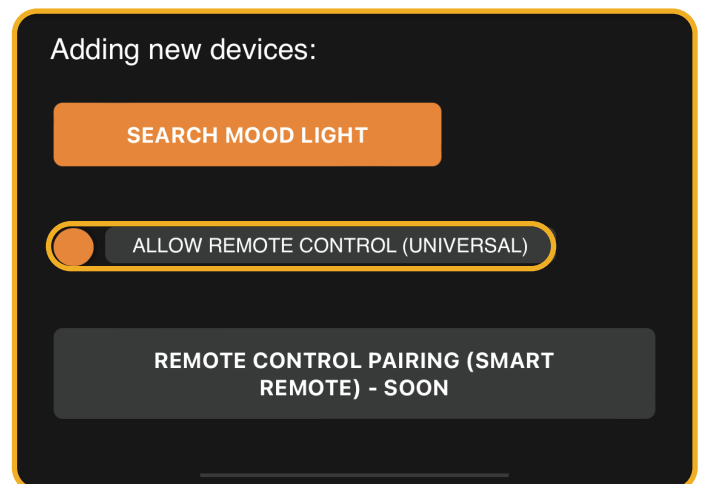

Figure 12.4 | Select 'Allow Remote control'
- Scroll down to 'allow remote control (universeel)' and make sure it is selected. See Figure 12.4.